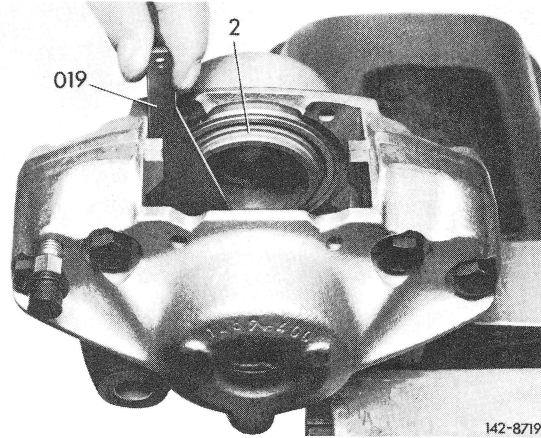

Fig. 12
**10** Insert piston into bores of caliper. Then check position of piston in caliper with piston gauge (019) (Fig. 12).